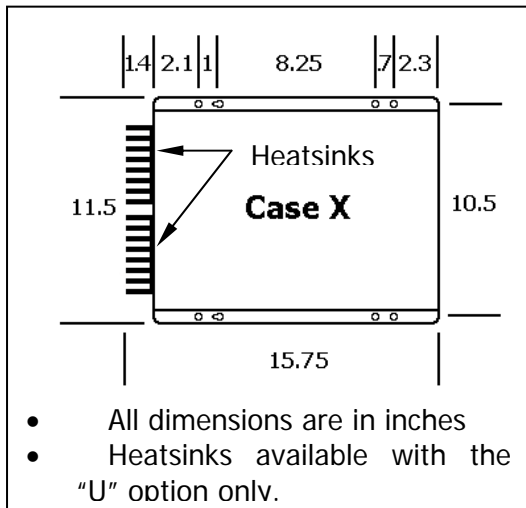

Figure 3: Inverter footprints
- Locate the mounting holes on the chassis flanges and fasten them using 1/4 inch diameter screws to secure the inverter. See figure 3.